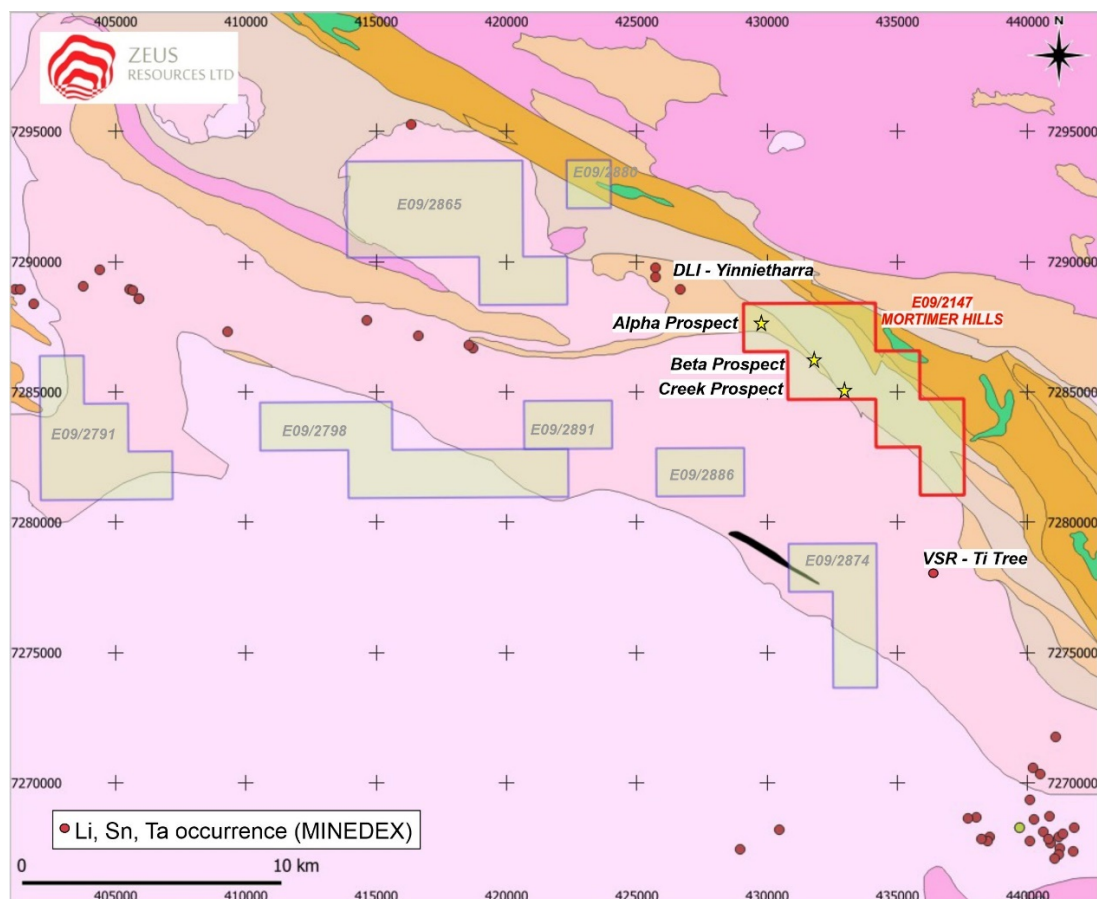

Figure 1: Location of Mortimer Hills Li Project (ZEU) tenements, Yinnietharra Li Project (DLI) and Ti Tree Prospect (VSR)
Phase 2 drilling program of 11 holes for a total depth of 1,260m intersected multiple thick pegmatites at Alpha and Creek prospects, Mortimer Hills Project (Figure 1) confirming the prospectivity of the Mortimer Hills tenement.
- The Phase 2 drilling program was focused on deeper drilling than the Phase 1 drilling program. The Company notes that neighbouring DLI's drilling on its Yinnietharra Project (Figure 1) on Zeus' western boundary encountered the bulk of its mineralised pegmatites at depths of between 50-200 m (See **DLI ASX Announcement, 23 June 2023**). The Company's Phase 2 drilling program targeting pegmatites between 50-150m received encouraging results.